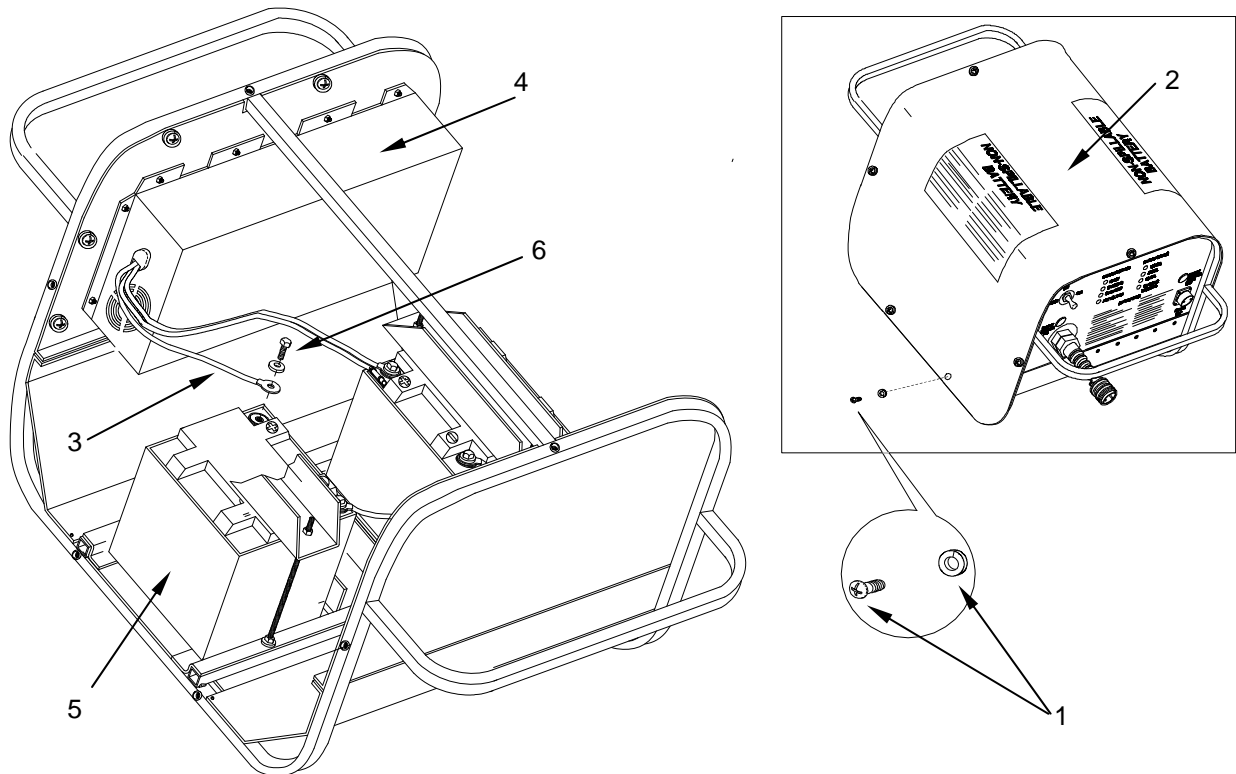

Figure 2. Disconnecting Battery Lead for Storage.
1. Remove the six screws and lock washers (Figure 2, Item 1) that secure the outer cover (Figure 2, Item 2).
2. Locate the RED wire (Figure 2, Item 3) that extends from the internal charger (Figure 2, Item 4) to the battery (Figure 2, Item 5).
3. Remove the terminal bolt (Figure 2, Item 6) that secures the RED wire (Figure 2, Item 3) to the battery (Figure 2, Item 5). Remove the wire and cover the connector at the end of the lead with electrical tape.
4. Tuck the wire between the battery (Figure 2, Item 5) and the internal charger (Figure 2, Item 4) and re-install the terminal bolt (Figure 2, Item 6).
5. Install the outer cover (Figure 2, Item 2) on the battery pack with the six screws and lock washers (Figure 2, Item 1) removed earlier.